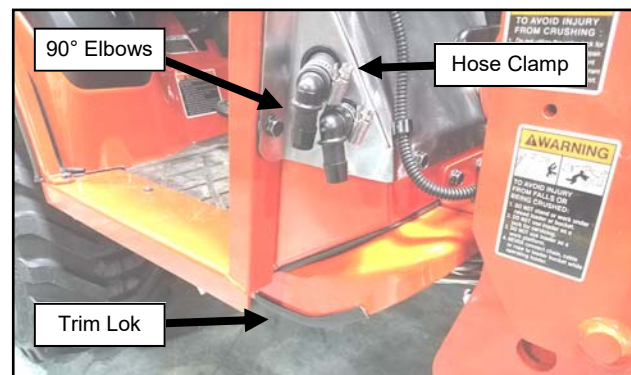

Fig. 20.3 (90° Heater Hose Elbow and Trim Lok)
- 20.3 Make sure the heater hose is not too tight or kinked before going through the snap rings, and cut both ends of hose about 1" beyond the snap rings on the outside. Connect the 90° heater hose elbows and secure with 1" hose clamps. Attach 6" of Trim Lok to the bottom edge of the vehicle floor board. See Figure 20.3.